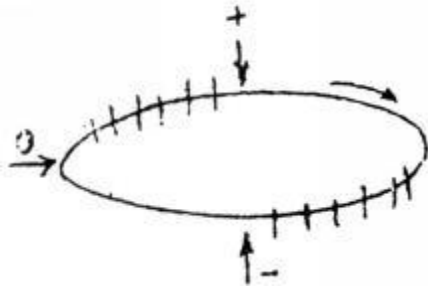
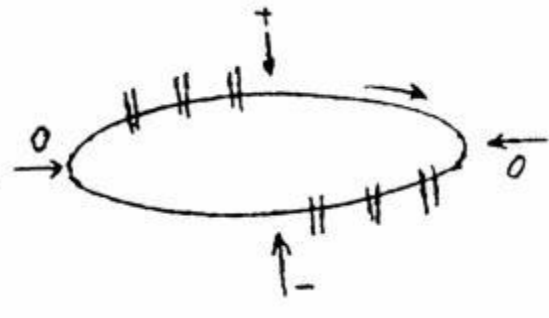

Fig. 7a
Fig. 7b
(3) Suspended potential object discharge (see Fig. 7a), waveform characteristics: it appears in two quadrants of positive and negative half cycle before the voltage peak, the amplitude, pulse number and position are the same, sometimes (as shown in Fig. 7b) appear in pairs, the discharge can move, but the mutual interval between them remains unchanged, when the voltage increases, the number of elements increases, the interval decreases, but the amplitude remains unchanged, and sometimes the voltage rises to a certain value Will disappear, but will reappear at this value. Cause: discharge caused by the gap between metals. The gap may be between two independent metal bodies on the ground or in the sample, such as loose shielding.